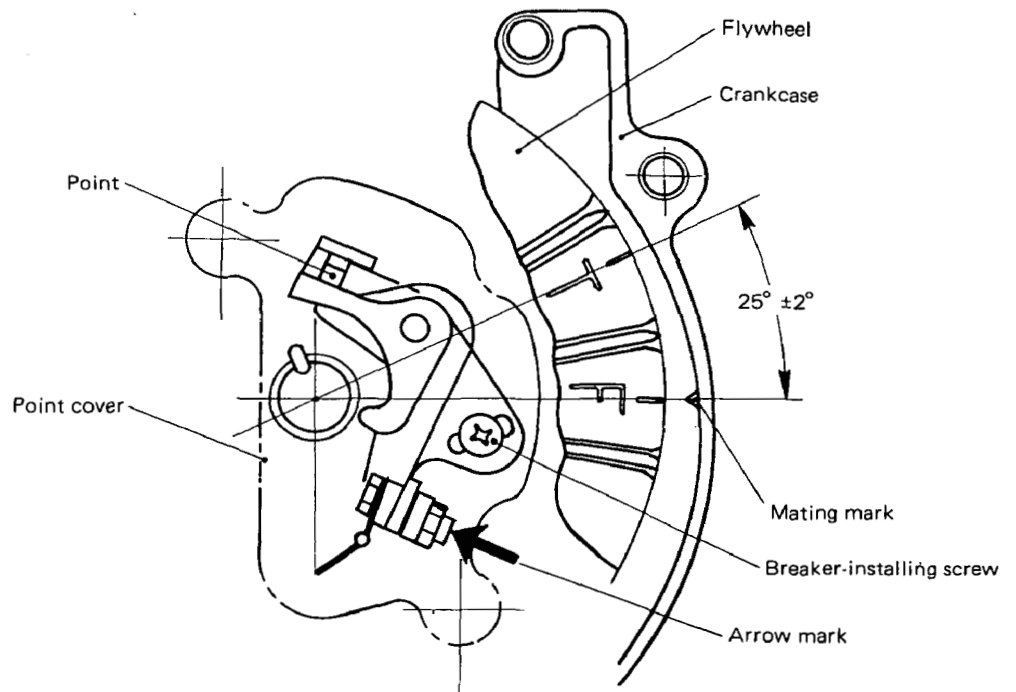

Fig. 17
- 7) Adjust as per the Fig. 17 (under the condition stated in item 6).
- b) Confirm open/close condition of point by pushing breaker in the direction of arrow. Adjust breaker so that point may be about to open. (Normal ignition timing will be $23^{\circ}\sim 27^{\circ}$)Notice that ignition timing will be over 30° if point is opening under the condition shown in Fig. 17.